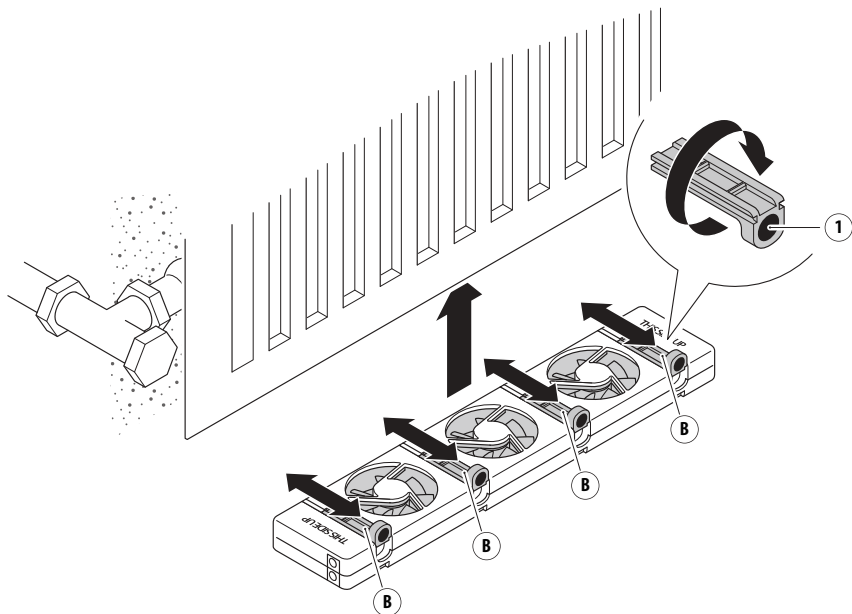

Fig. 7 - Attach the SpeedComfort (A) to a single plate radiator.
1. Position the **adjustable magnets** (B) until the **magnets** (1) are on the same side and all four **magnets** (1) are facing up. Remove the small block located opposite to the adjustable magnets in the housing. Please dispose of the block as plastic waste.
3. Use the **adjustable magnets** (B) to attach the SpeedComfort (A) to the single plate radiator (see fig. 7).